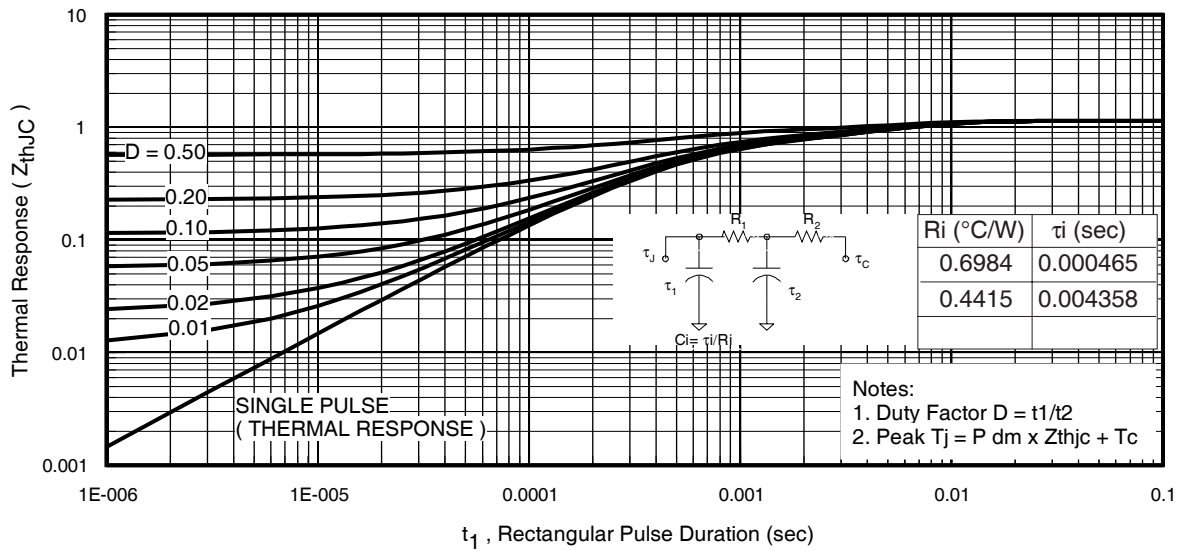

Fig 11. Maximum Effective Transient Thermal Impedance, Junction-to-Case
$Z_{thJC}(D, t_{av})$ = Transient thermal resistance, see figure 11)
- ① Repetitive rating; pulse width limited by max. junction temperature. (See fig. 11).
- ② Limited by T_{Jmax} , starting $T_J = 25^\circ\text{C}$, $L = 0.12\text{mH}$, $R_G = 25\Omega$, $I_{AS} = 42\text{A}$, $V_{GS} = 10\text{V}$. Part not recommended for use above this value.
- ③ Pulse width $\leq 1.0\text{ms}$; duty cycle $\leq 2\%$.
- ④ C_{OSS} eff. is a fixed capacitance that gives the same charging time as C_{OSS} while V_{DS} is rising from 0 to 80% V_{DSS} .